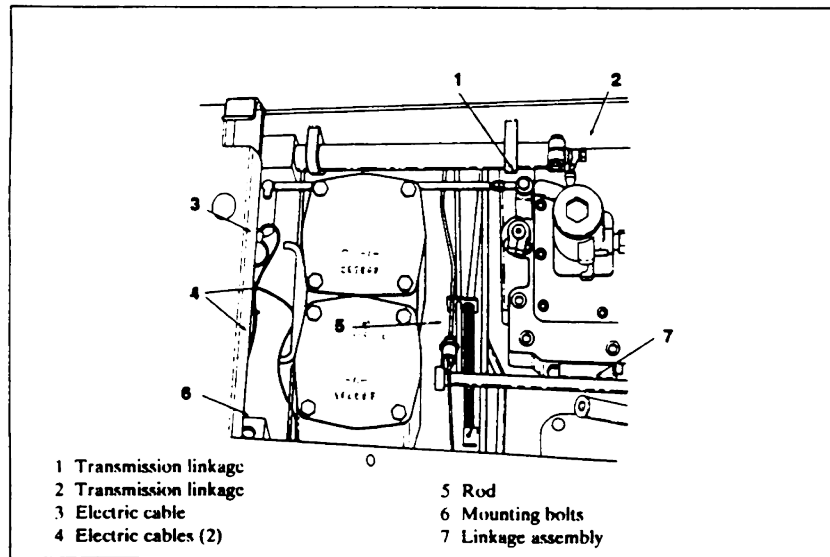

FIGURE 16. BATTERY CABLE REMOVAL
- Disconnect the electric cable (3, Figure 16).
- Disconnect the electric cables (4, Figure 16) from the battery.